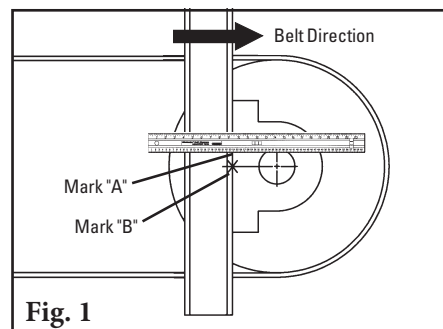

Fig. 1
3. **Put a level on top of the pulley shaft and make a mark (A) on the structure.** Measure down from Mark A half the diameter of the pulley shaft and make another mark (B), locating the shaft's centreline (Fig. 1).